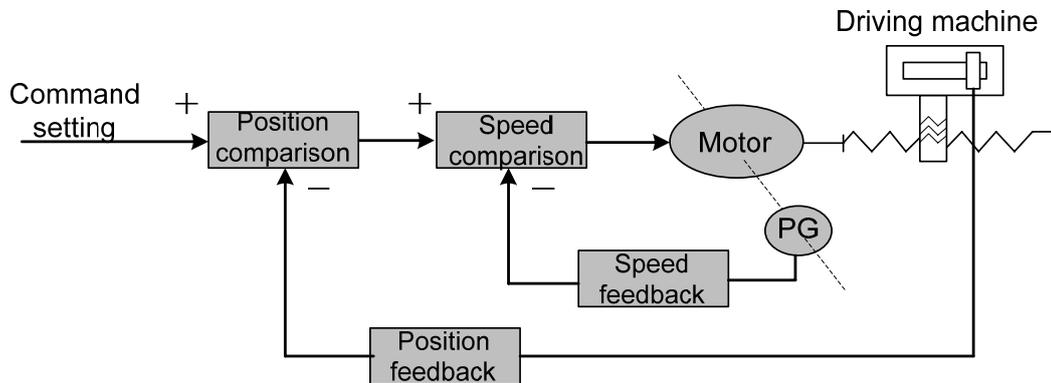
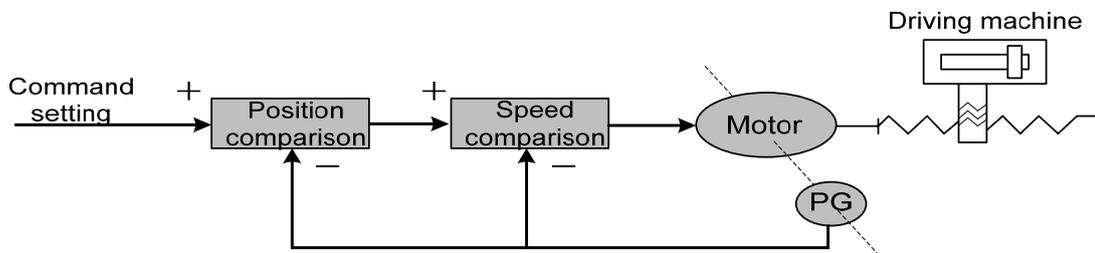

Figure 1-4 Full-closed loop control
Figure 1-5 Semi-closed loop control
- **Closed-loop control:** The controlled variable of the control system is detected and transferred to the controller by the feedback device to affect the output of the controller and thereby to change the controlled variable. Closed-loop control is classified as **full-closed loop control** and **semi-closed loop control** by the detection points. The feedback device’s direct detection of the controlled variable and use of it for feedback is called full-closed loop control (e.g. Figure 1-4) and the position of the gear is the controlled variable. The full-closed loop control over the position of the gearing is achieved by using the grating mounted on the gearing as a position feedback device and the encoder for the servomotor as a speed feedback. In the absence of the grating, the encoder for the servomotor is used as a position and speed feedback (see Figure 1-5). In this case, this is the semi-closed control